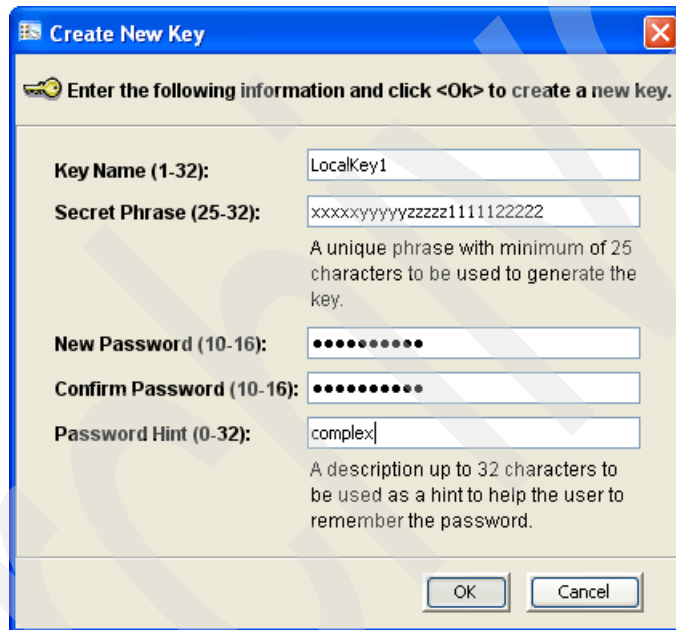

Figure 12-59 Create New Key
3. In the window shown in Figure 12-59 on page 415:
- a. Type a unique name for the key (1–32 characters) in the Key Name text box.